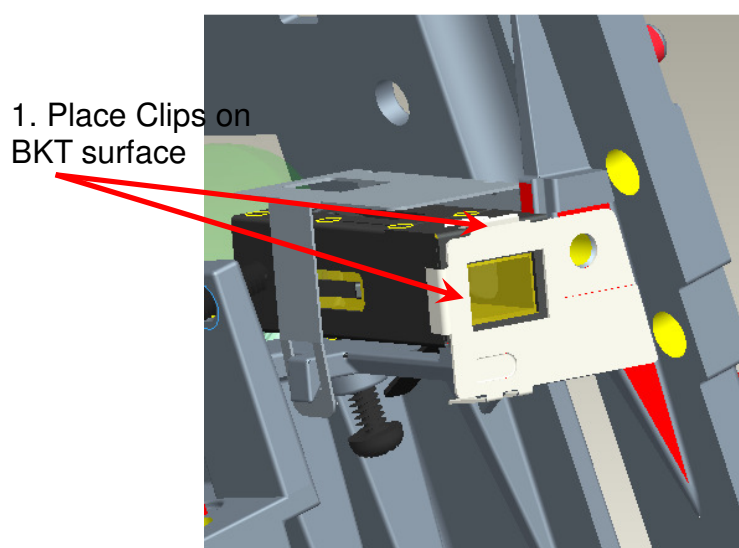
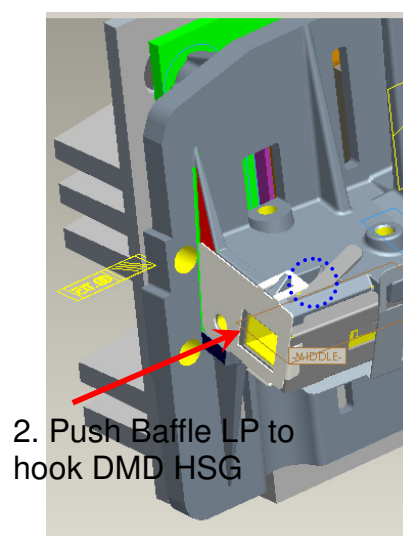

Fig. 1-4
Fig. 1-5
- (4) Assemble "Baffle LP" first (Fig. 1-4) & push "Baffle LP" to hook DMD HSG (Fig. 1-5).